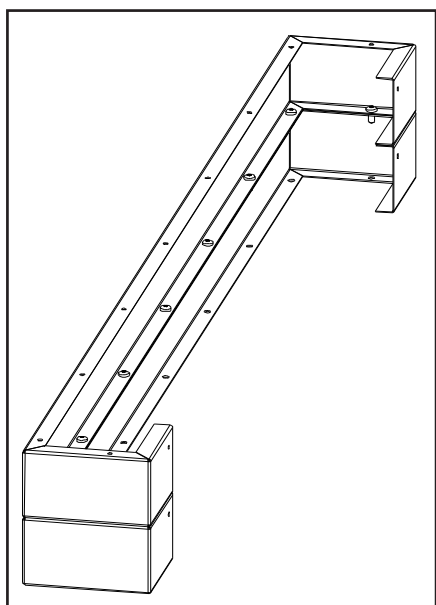

Figure 34: Combining 2 Base Shelf Risers.
2. When using more than one riser each level must be attached using nine (9) #8 T-20 screws provided (see Figure 34).